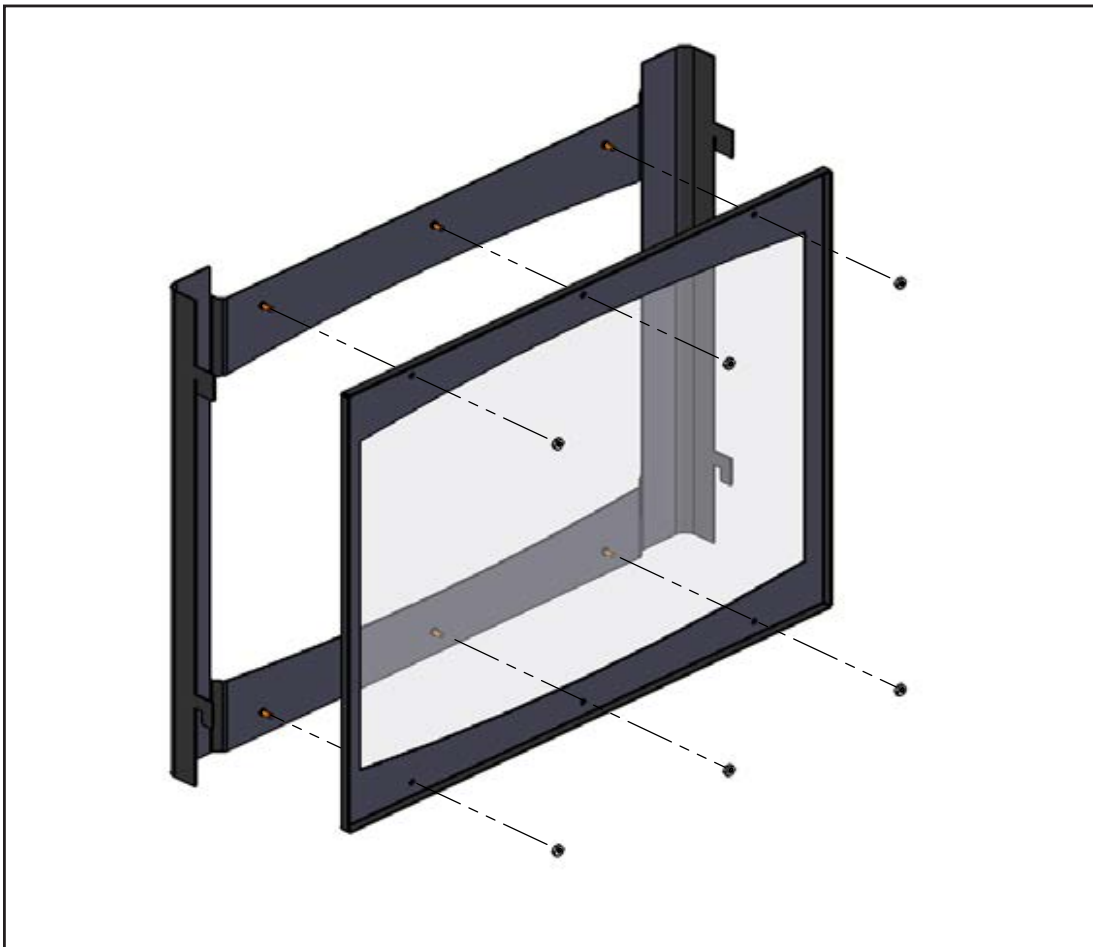

Figure 65: Safety Screen Removal
4. Using a 11/32" wrench, remove the six (6) #8 nuts as shown in Figure 65.